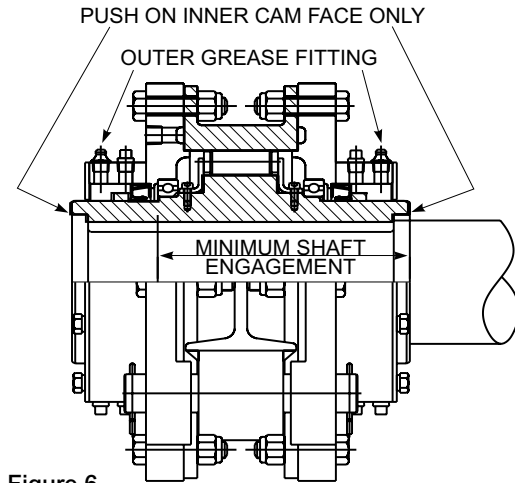

Figure 6
- B. Minimum shaft/inner cam engagement as shown in Figure 6 and Table 4. If two axial retention collars are required, provide adequate shaft length to permit mounting the collars.